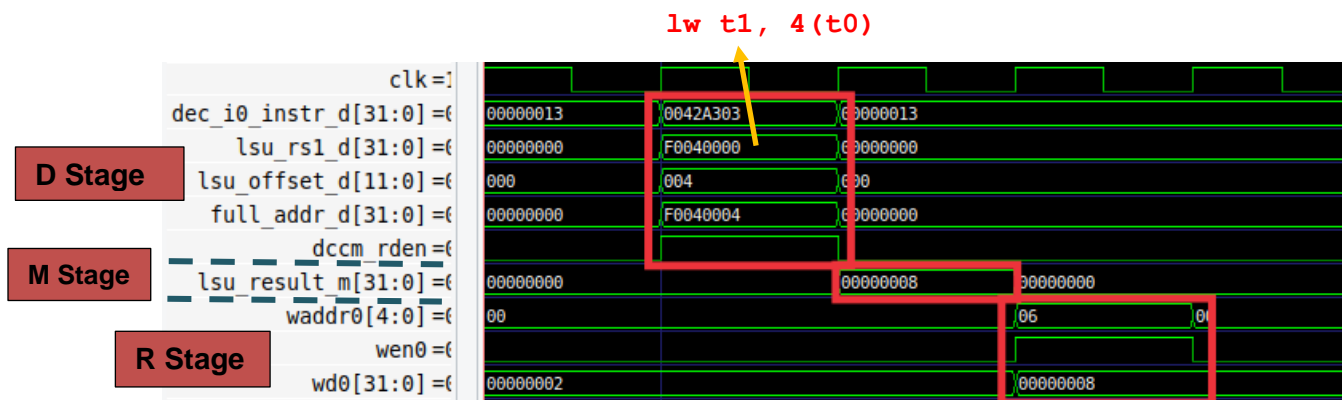
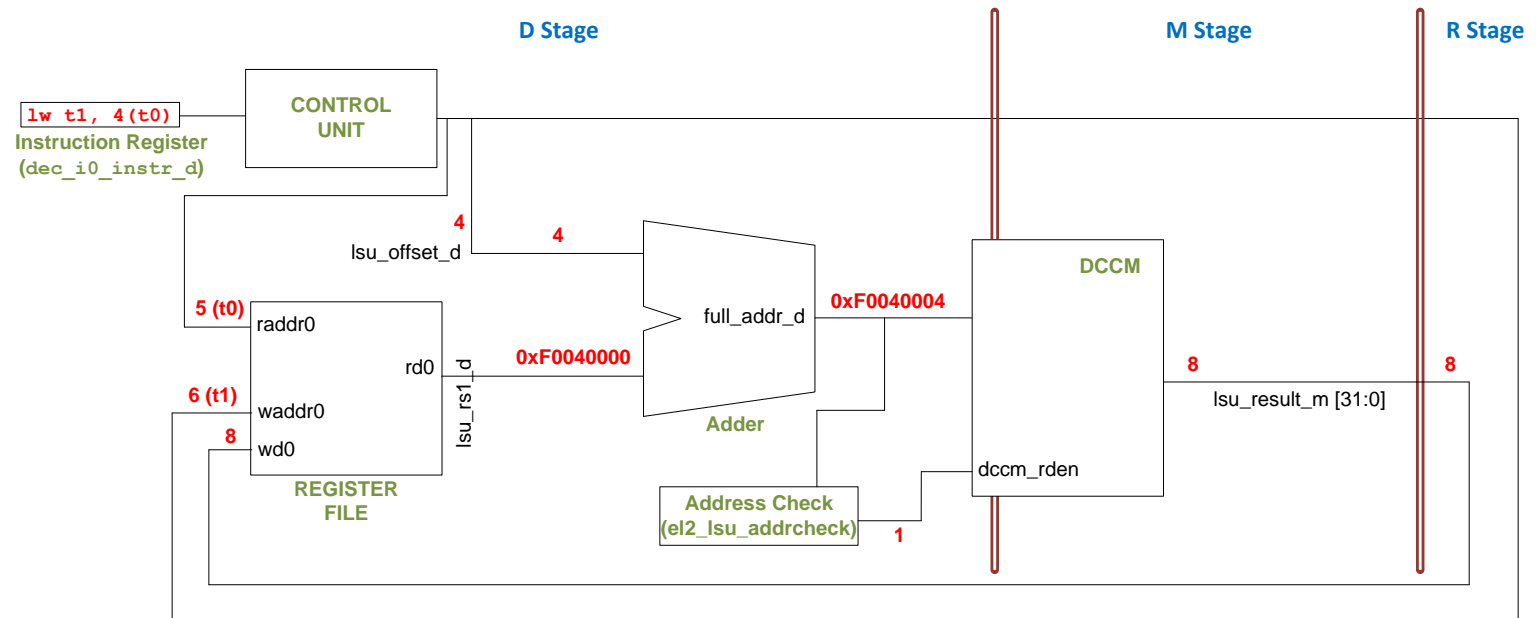

Figure 4. Verilator simulation for example program in Figure 2
Figure 5. High-level view of the `lw` instruction executing in the VeeR EL2 pipeline
Figure 4 shows the execution of the second `lw` instruction for an intermediate iteration of the loop from Figure 2. The signals shown are the ones specified in file: `[RVfpgaEL2NexysA7DDRPath]/Labs/Lab13/LW_Instruction_DCCM/commandLine/scriptLoad.tcl`. Note that all iterations are the same: the first load reads the DDCM's first data word (2) into `t1` (x6); the second load reads the DDCM's second data word (8) into the same register (`t1`).
Figure 5 shows a high-level view of the VeeR EL2 pipeline during the execution of the second `lw` instruction. Note that the figure merges the state of the processor in different cycles:
TASK: Replicate the simulation from Figure 4 on your own computer. Follow the steps described in detail in the GSG.
Analyse the waveform from Figure 4 and the diagram from Figure 5 at the same time. The figures include some signals associated with the D, M, and R stages. The values highlighted in red correspond to the second `lw` instruction as it traverses these stages.